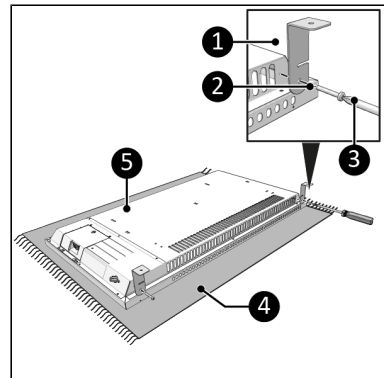

Figure 28.
7. Lay the device down on a soft steady surface (Figure 28, pos. 4).
8. Screw and tighten two brackets (Figure 28, pos. 1) on both sides of the main body (Figure 28, pos. 5) with a small screw (Figure 28, pos. 2) using a Phillips screwdriver (Figure 28, pos. 3).